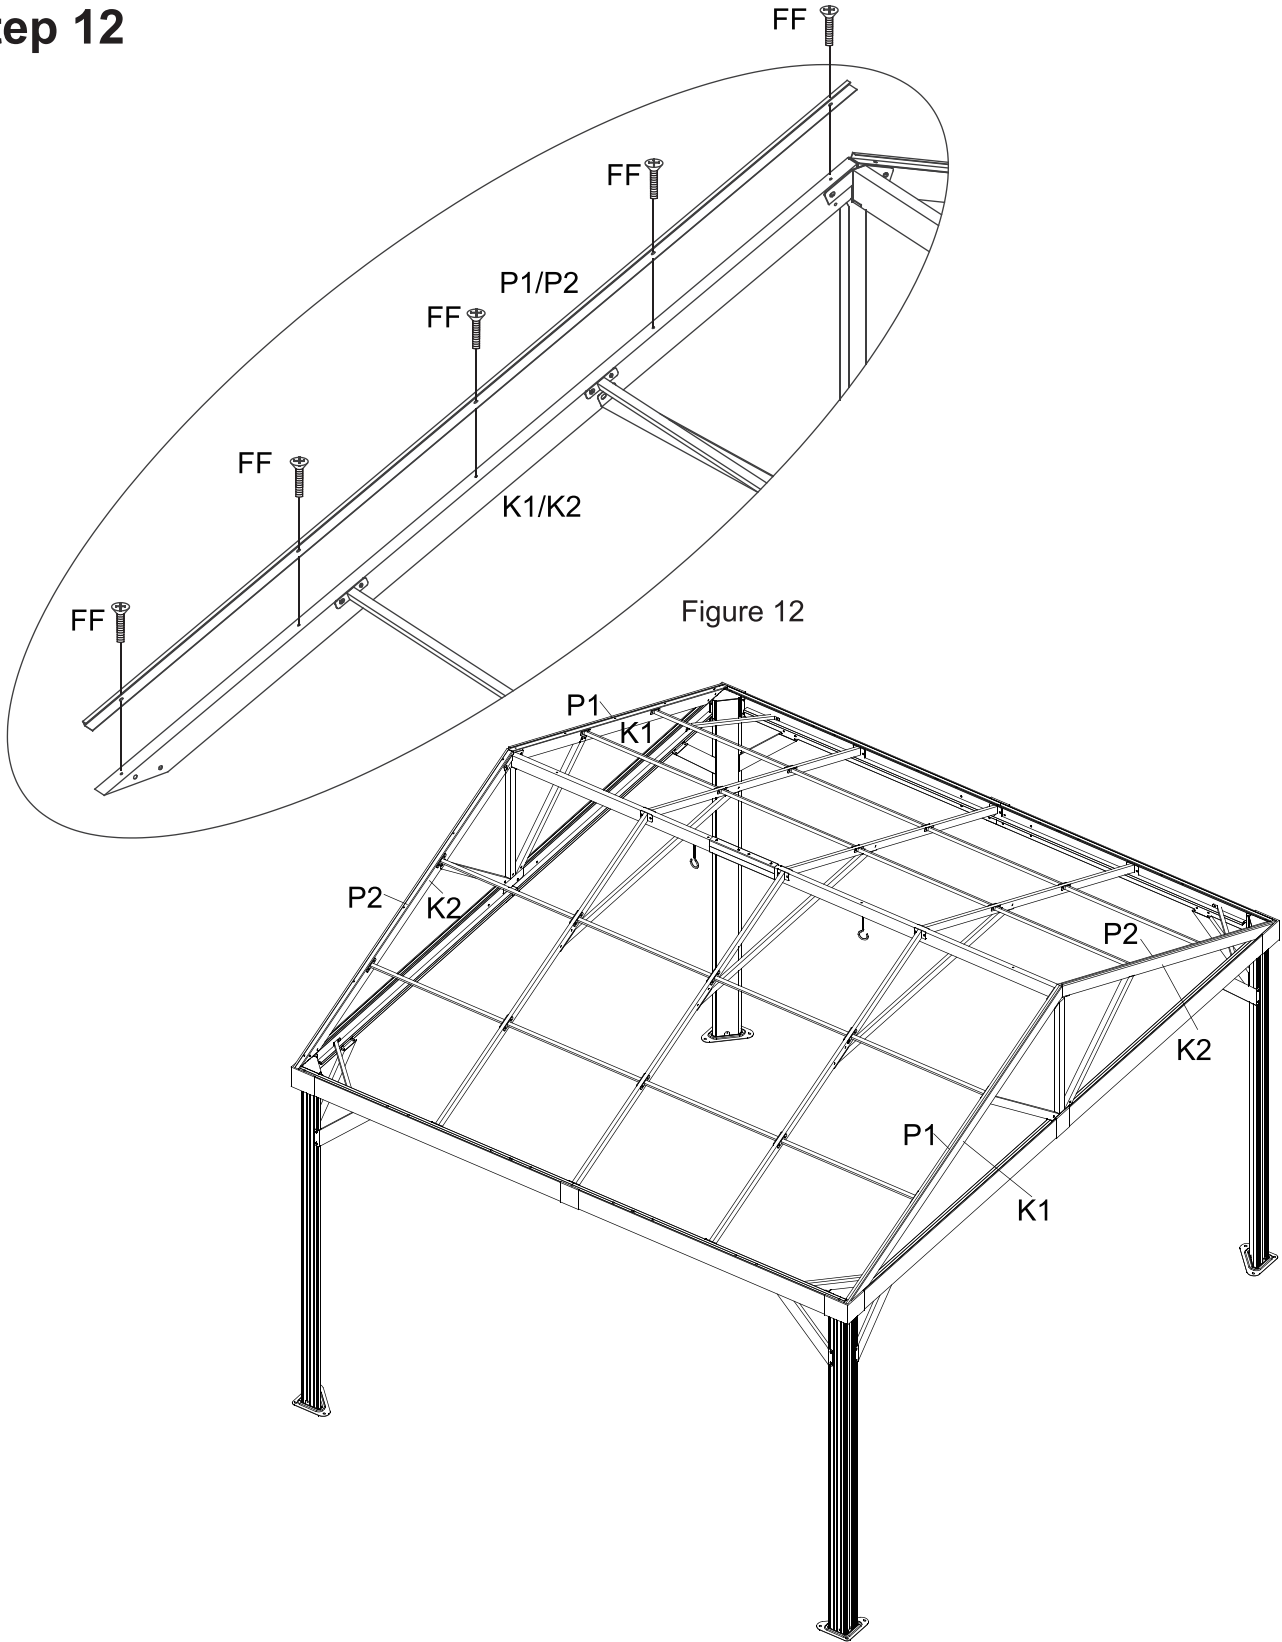

Figure 12
12. Connect the Edge Banding (P1) with the Bilateral Cant Beam (K1), Edge Banding (P2) with the Bilateral Cant Beam (K2), fix them with Bolts (FF) . See Figure 12.